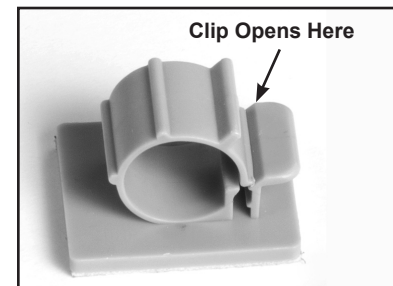

Figure 9 – Jack Clip
4. Insert the jack as shown (*see figures 9 & 10*). The clip should seat down onto the threaded portion of the jack, between the tip nut and the hex nut. The two washers should be next to the hex nut.